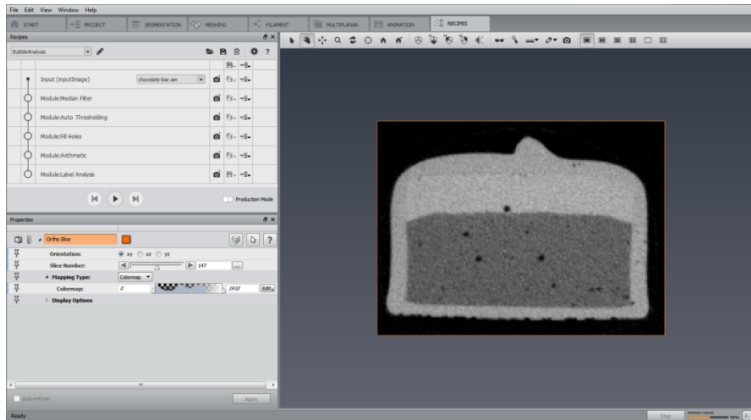

Figure 5.8: Recipes Workroom
- Attach a *Create Recipe* module to *Result.label* (result from previous *Label Analysis* module), and click **Apply**. Amira will switch automatically to the *Recipes* workroom (see Figure 5.8).